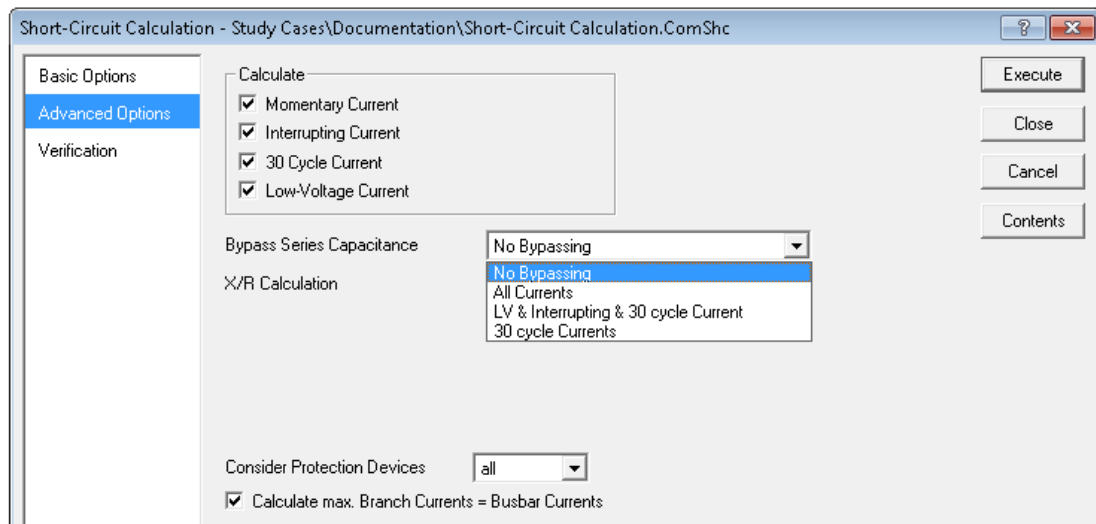

Figure 3.1: ANSI Short-Circuit calculation (*Advanced Options* tab)
1. If the parameter *X/R Calculation* on the *Advanced Options* tab (as shown in the Short-Circuit command dialog in Figure 3.1) is set to *Separate R and X*;
2. If the parameter *X/R Calculation* on the *Advanced Options* tab is set to *complex*, then the bypassing is dependent upon the setting of the *Bypass Series Capacitance* option, explained in item 3., below;